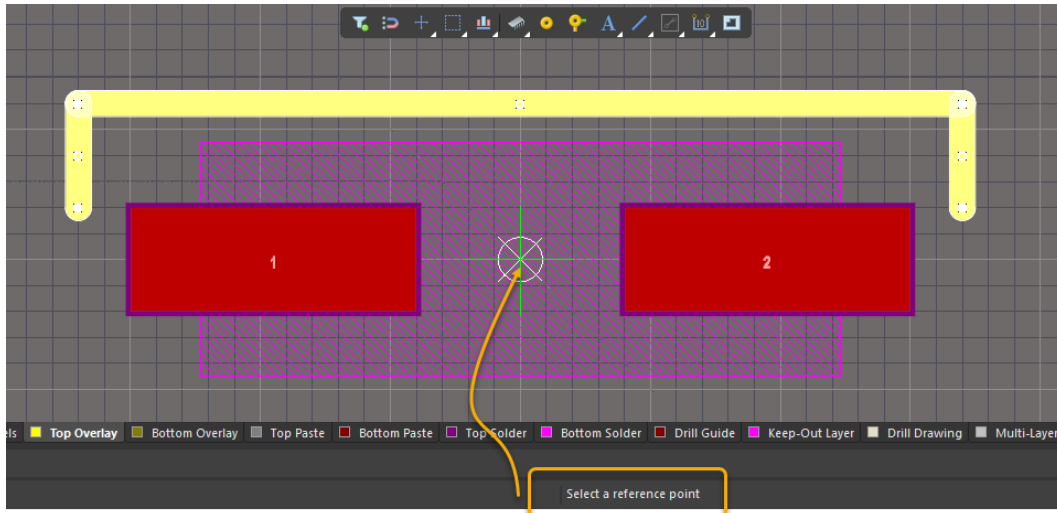

Figure 42. Copy the upper outline and set a reference point in preparation for pasting
- b) The cursor becomes a crosshair, and a message is displayed at the bottom of the screen: Select a reference point as shown in Figure 42.